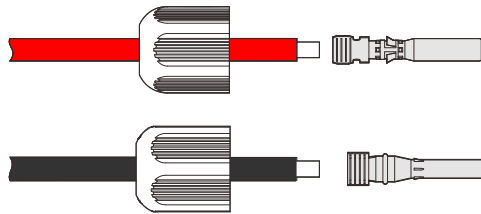

Figure3-17 Crimp the metal terminals
Step 2 Loosen the lock nuts of the positive and negative connectors, draw the positive and negative wires through the corresponding lock nuts, and crimp the positive wire and negative wire to the positive and negative metal terminals respectively, and then check whether the positive and negative wires are crimped firmly, as shown in Figure3-17.